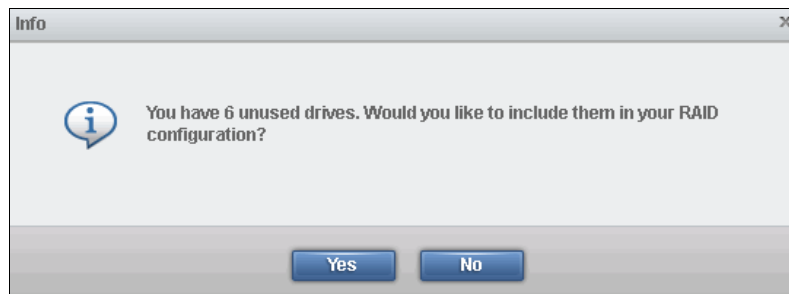

Figure 7-24 Unused drives notification
4. If there are internal drives with a status of Unused, a window opens, which gives the option to include them in the RAID configuration, as shown in Figure 7-24.